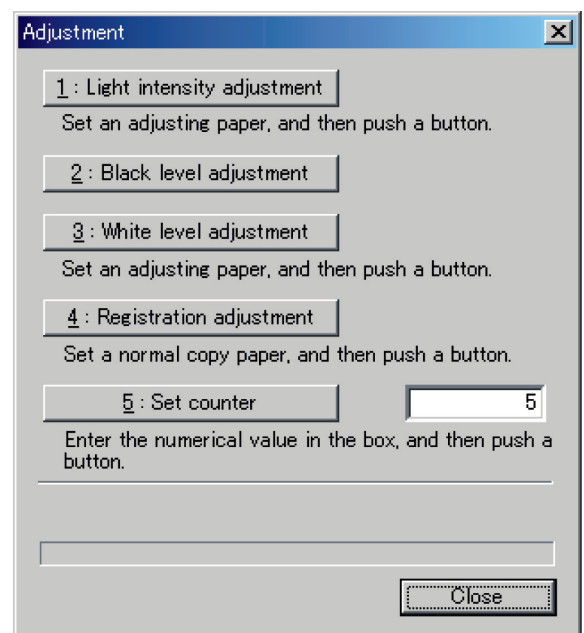

Fig. 5-9
- 3) The adjustment display appears, and click "4. Registration adjustment". (See the Fig.5-9)